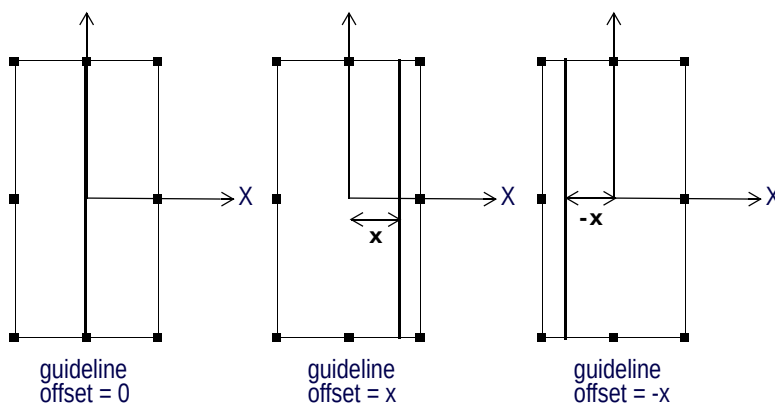

Figure 350 Point Finder — Guideline Offset
- See Figure 350 for an illustration of positive and negative **Offset** values.